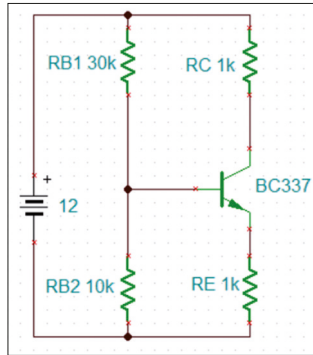

Figure 3.72: Circuit built on the simulator.
- Figure 3.72 shows the circuit built on the simulator.